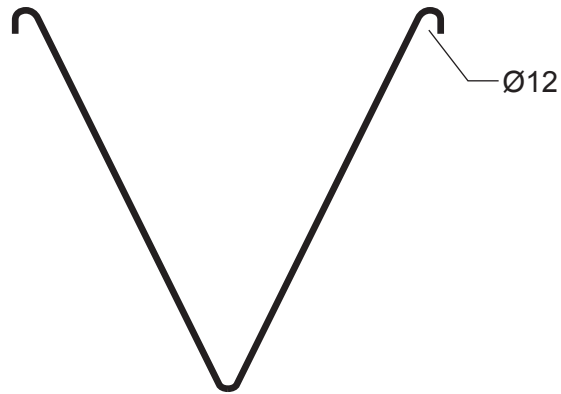

Fig. 11.8
- (g) Fig. 11.8 shows an end view of the magazine rack.